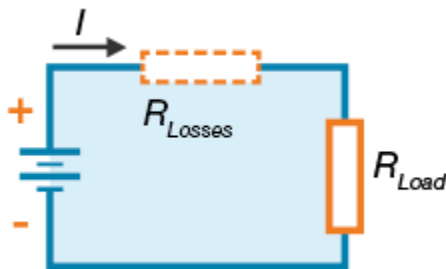

Figure 1: Simple DC Circuit
Direct current (DC) is used as a power supply for electronic systems. A direct current circuit is an electrical circuit that consists of any combination of constant voltage sources, constant current sources, and resistors. Figure 1 on the left is an example of the most basic DC circuit.
To better understand the above point, let's discuss how current flows in a DC circuit. A magnet near the wire in a DC circuit attracts the electrons on its positive side and repels the electrons on its negative side. This causes the electricity to flow in one direction only; DC power from a battery works this way (Figure 1). However, DC is not an efficient way to transfer electricity over long distances, because it begins to lose energy due to the power dissipated from the resistance of the circuit wires or cables.